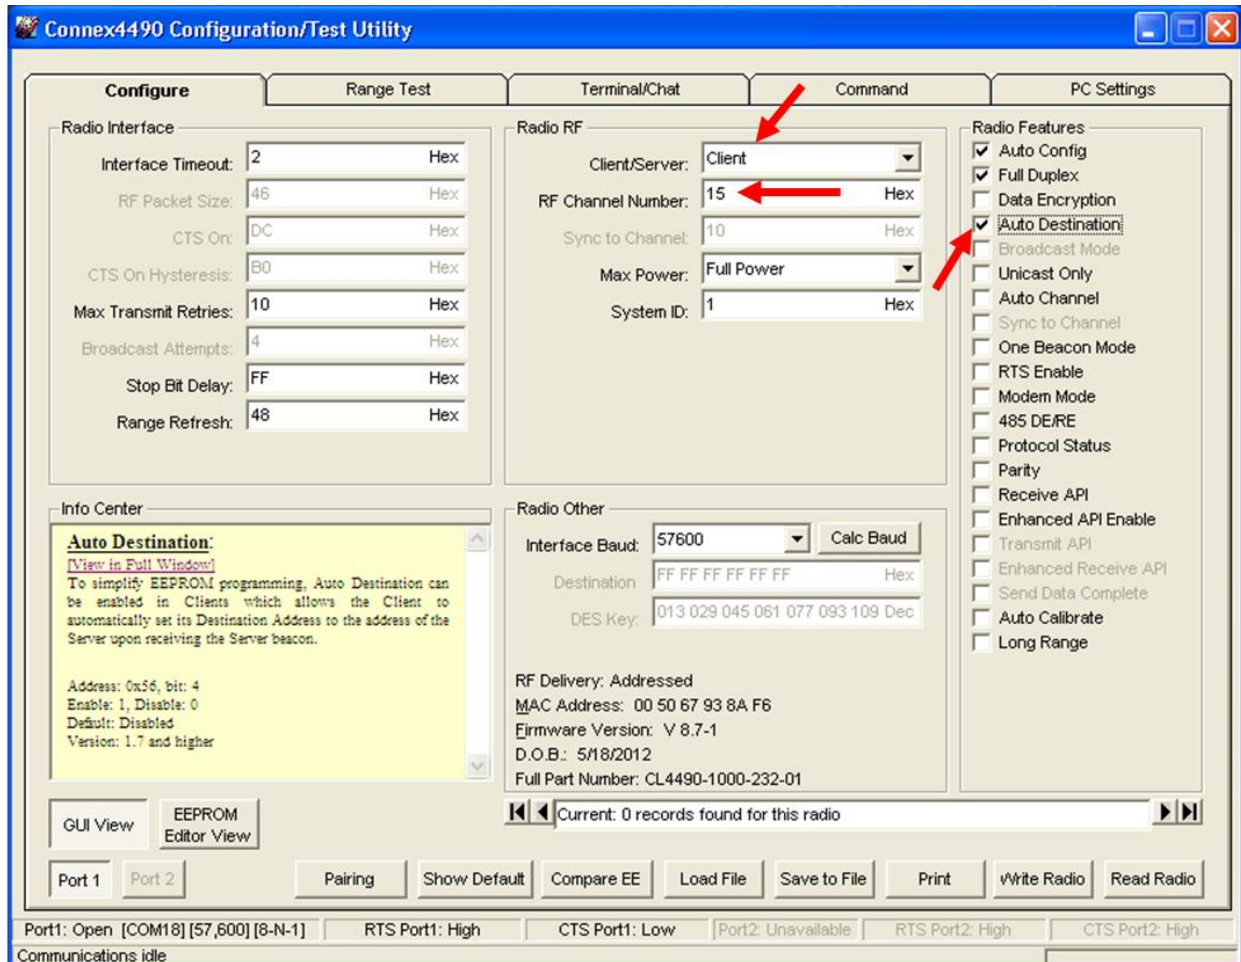

Figure 8: Client settings
11. Configure the radios that will communicate with server #2 as *Client* and *Auto Destination* and with the same RF Channel Number as server #2 (Figure 8). Click **Write Radio** to write the changes to the radios EEPROM.